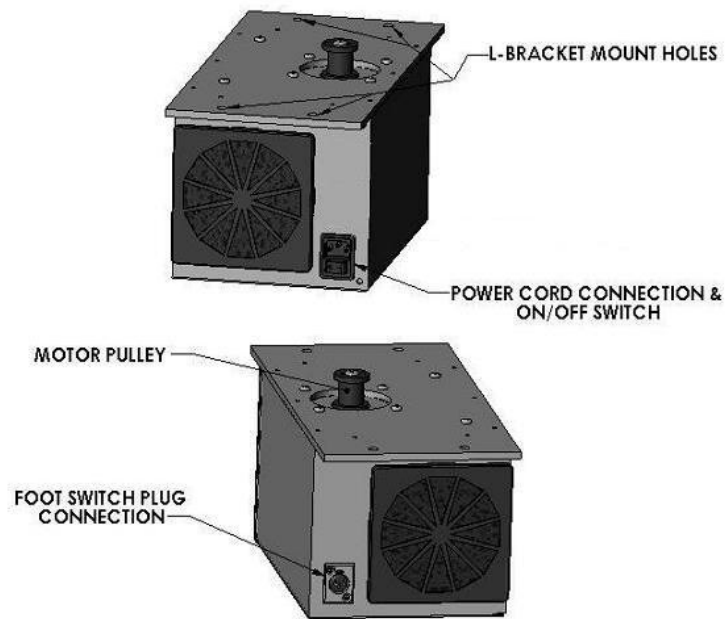

Fig. 1a - Motor Box – Front and Rear Views
6) Connect the Foot Switch Signal and the Power Cords – (See Figures 1a, 1b) Turn off the E-Lift Power Switch (0). Connect the Foot Switch Signal Cord to the front of the E-Lift II+ (now facing the right side of the loom). Connect the female end of the Power Cord at the back of the housing, now facing the left side of the loom. Be sure they are both completely, firmly inserted. It is best to plug the male end of the Power Cord into a surge-protector or, if not available, directly into a wall plug. NOTE: Use of an inexpensive outlet strip or light duty extension cord may interfere with the operation of your E-Lift II+.